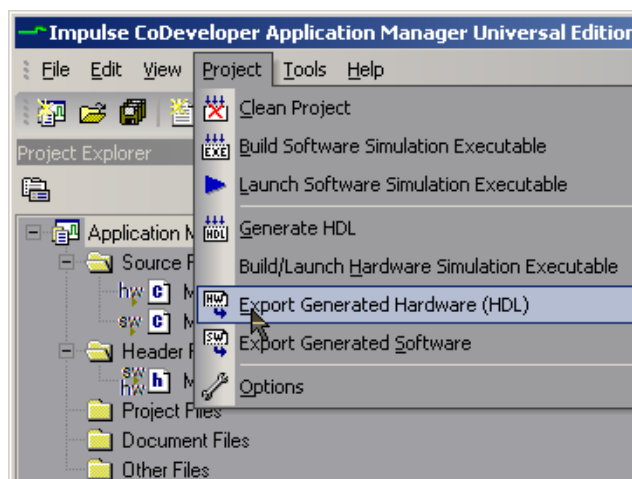

Figure 59 - Export Generated Hardware (HDL) using pull-down menu
4. Verify that the files were created successfully by viewing the end of log file, as shown in Figure 59. “Successful!” should be the last line in the log file.